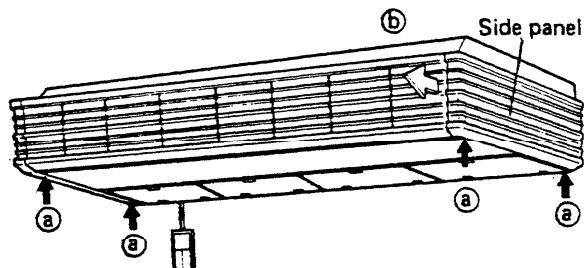

Fig. 1
- 2) Slide the side panels on both sides towards the front **(b)** of the unit in order to remove them. Fig. 1